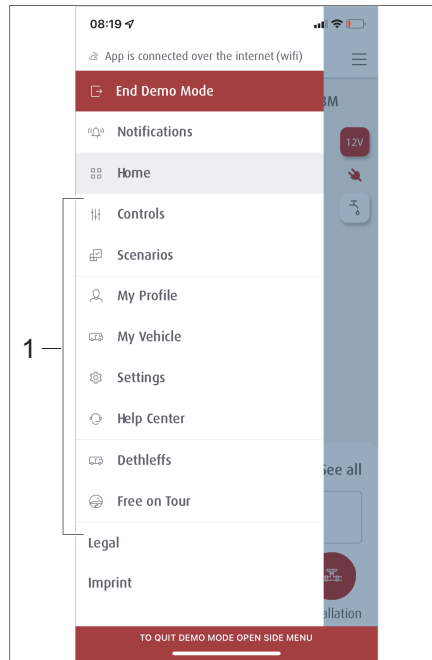
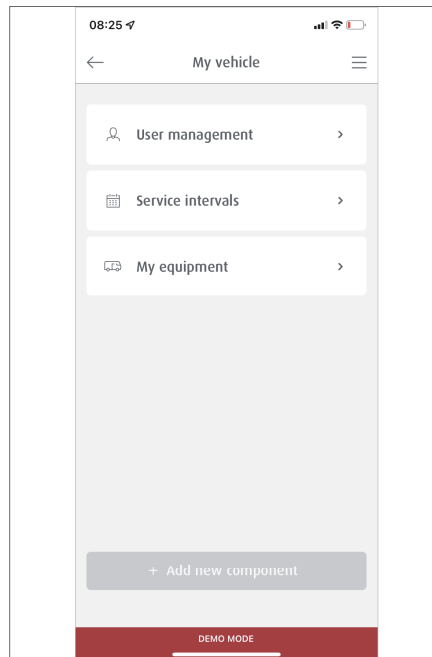

Fig. 280 Submenus
Fig. 285 My Vehicle submenu
- Click on the symbol ☰ in the menu section. The submenus (Fig. 280,1) will be displayed.
- Click on *Scenarios* (Fig. 280,1) in the menu section.
- In the submenu (Fig. 280,1), select the *Operation* menu.
- In the submenu (Fig. 280,1) select the *My Vehicle* menu. Guest accesses can be setup, service appointments booked and vehicle equipment entered in the *My Vehicle* submenu (Fig. 285).